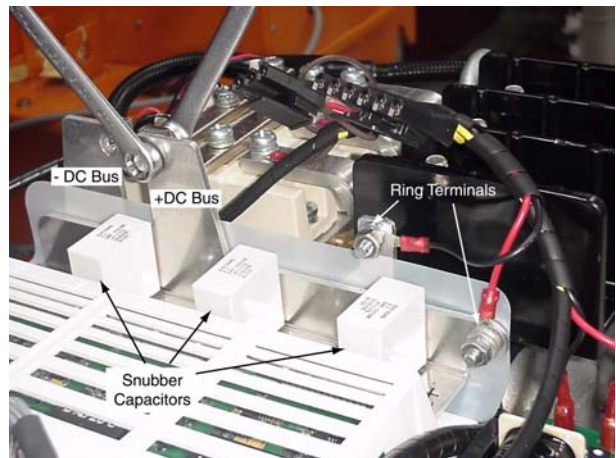

Figure 6-15 Removing Attaching Hardware from the DC Bus
2. Using a 10 mm combination wrench, remove the attaching hardware that secures the (+) and (-) diode bus bars to the DC bus bars. Refer to Figure 6-15.